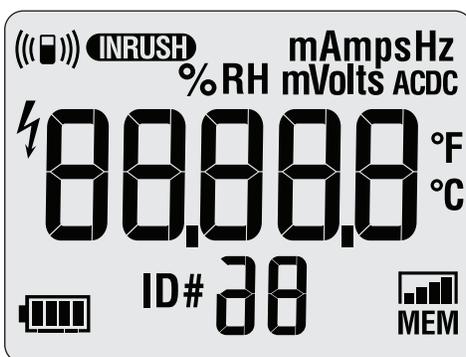

Figure 2. All Segments of the Display
2. Push **①** while you keep **LOG** pushed until all of the display segments are shown. See Figure 2.